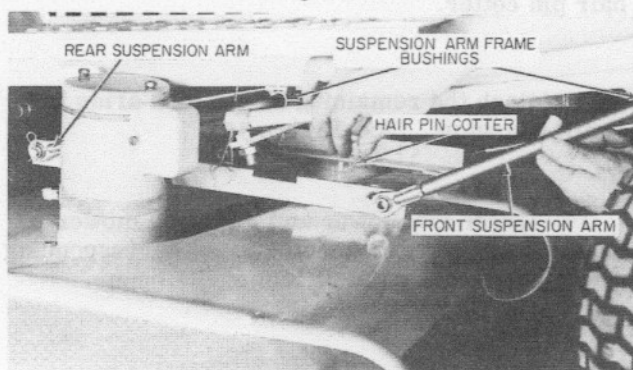
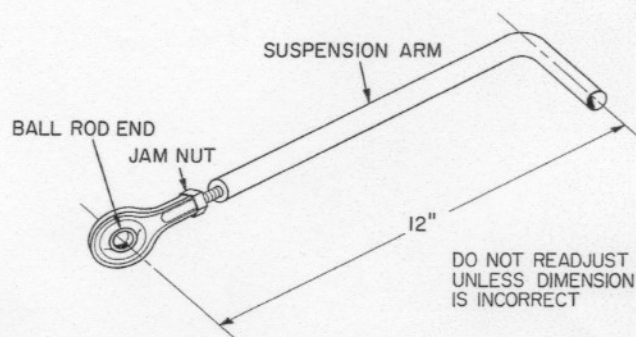

Figure 15
Figure 17
9. Insert all four suspension arms in their respective frame bushings so their lower ball rod ends lay on the mower deck near their mounting pins. (See Figure 15.) Do not readjust suspension arms. These are factory adjusted as shown in Figure 17.